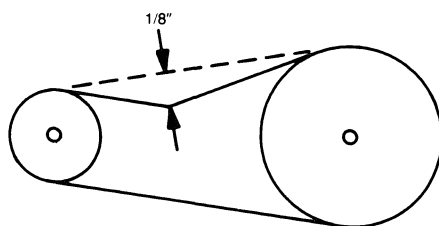

Figure 5.22 Drive Belt Deflection
7. Replace drive belt on its pulleys. Slide motor back until belt deflects only 1/8 in. when pressed down with a force of 1 pound (see Figure 5.22).